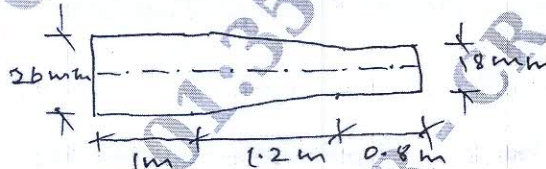

Fig.Q2(b)
- b. Find the total elongation of the bar shown in Fig.Q2(b) subjected to an axial tensile load of 50 kN on the bar of the material having modulus of elasticity of $2.1 \times 10^5 \text{ N/mm}^2$.